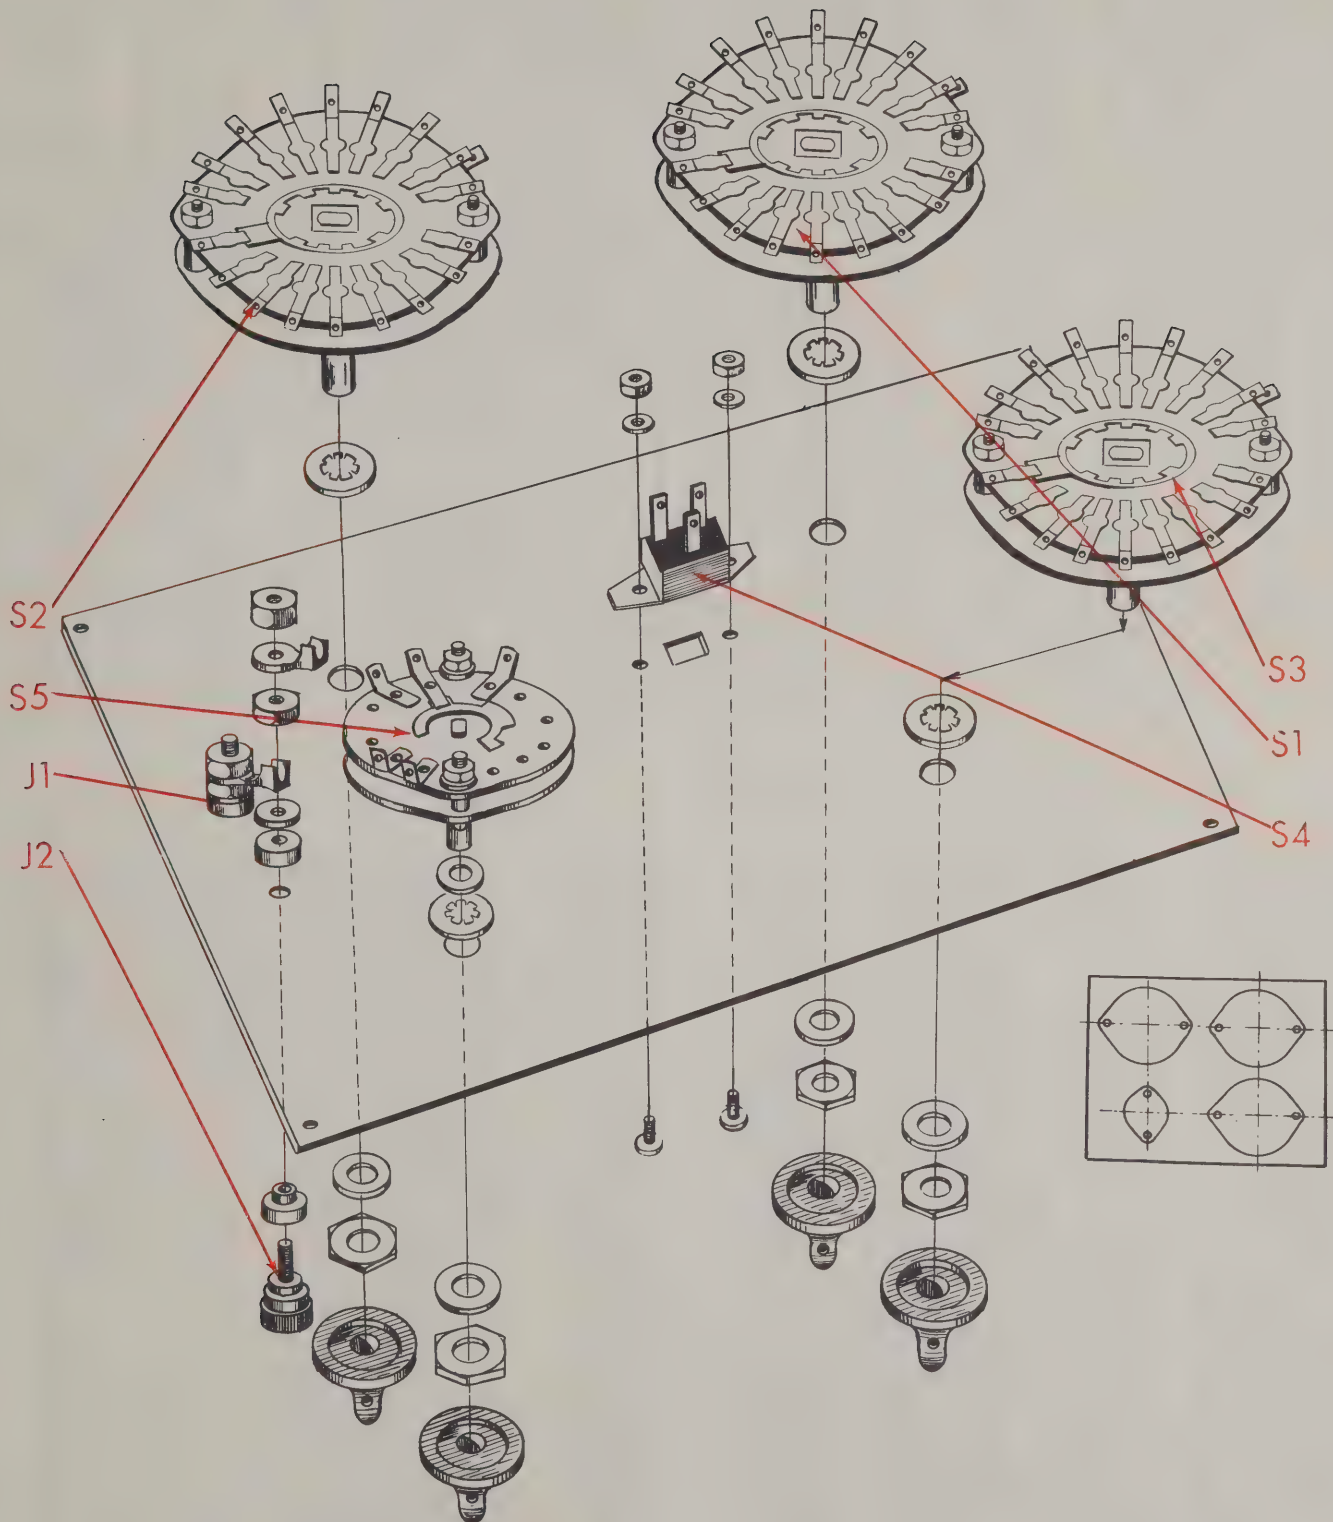

Fig. 1
1. (✓) Fig. 1. Turn switches S1, S2 and S3 to the maximum counter-clockwise position. In this position, the rotor hits contact #1. Mount each switch as shown, using one  $\frac{3}{8}$  lockwasher behind the panel, one  $\frac{3}{8}$  flatwasher and one  $\frac{3}{8}$  hex nut on the front of the panel.
2. (✓) Fig. 1. Mount slide switch, S4 as shown. Use two #4-40 screws, two #4 lockwashers and two #4-40 hex nuts.
3. (✓) Fig. 1. Turn the small rotary switch, S5 to maximum counter-clockwise position. Mount as shown using one  $\frac{3}{8}$  lockwashers behind the panel, one  $\frac{3}{8}$  flatwasher and one  $\frac{3}{8}$  hex nut on the front of the panel.
4. (✓) Fig. 1. Mount the insulated binding posts, J1 and J2 as shown. Mount each jack, using a bakelite shoulder washer on the front of the panel and a bakelite flatwasher behind the panel. Tighten each post with one #8 lockwasher and one #8-32 hex nut. Slide a #8 lug over the nut and secure with another #8-32 hex nut as shown.